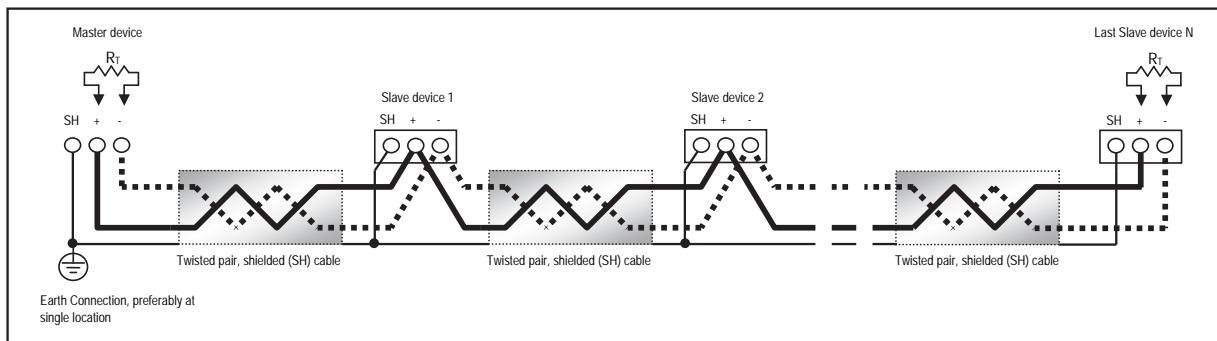

Figure 5.5: RS485 Daisy Chain Connection
- Connect shield to RS485 Master and individual devices as shown in Figure 5.5. You may also connect the shield to earth-ground at one point.
Figure 5.5 shows a representation of an RS485 Daisy Chain connection. Refer to Section 5.1.2.1 for details on RS485 connection for the Unicom 2500.